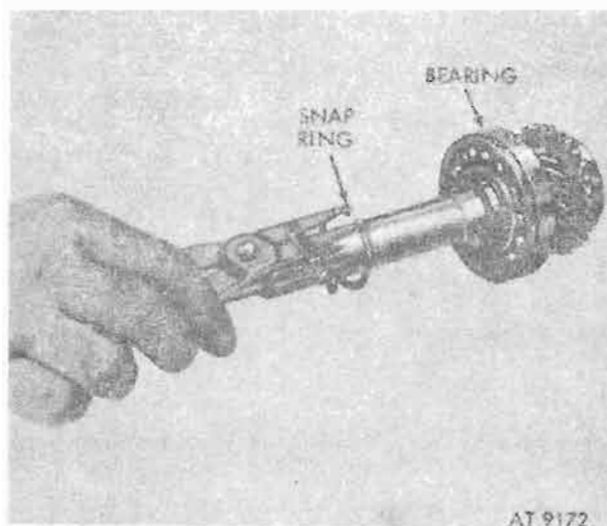

Figure 8-39. Input shaft bearing retaining snapping.
- c. Using snapping pliers remove snapping securing bearing on input shaft (fig. 8-39).
b. Install new snapring to secure bearing on shaft (fig. 8-39).